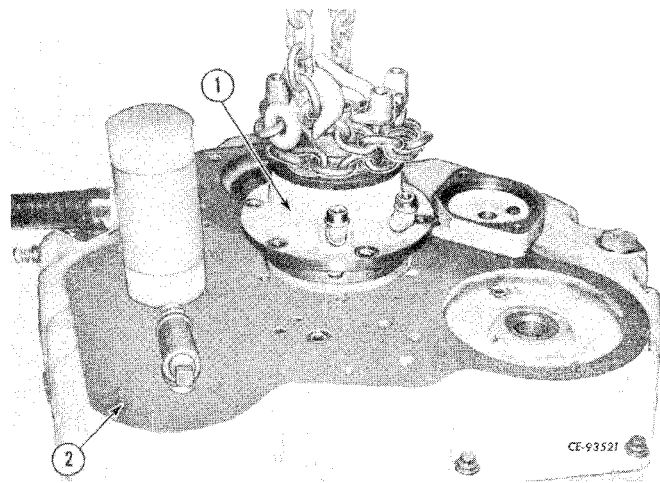

Figure 3-8
Lightly punch mark position of stator shaft assembly (1, Fig. 3-8) on front housing (2). Remove the cap screws at the base of the stator shaft assembly. With a hoist attached to the output shaft, raise the entire converter assembly (2) approximately an inch above the work